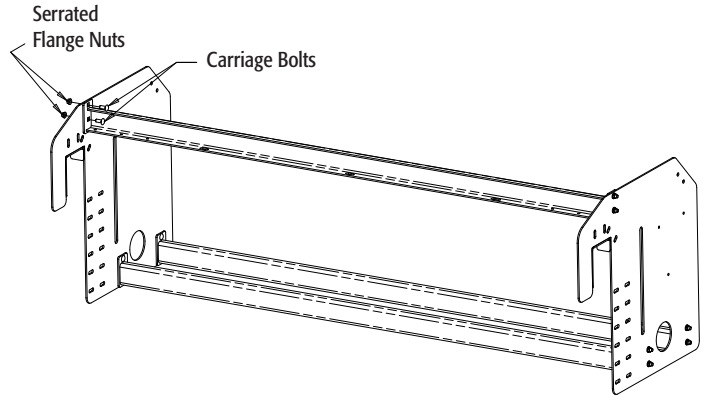

Fig. 3
3. Attach the Control Box Assembly to the driver side Side Plate using the predrilled holes and included hardware as shown in Figure 3.